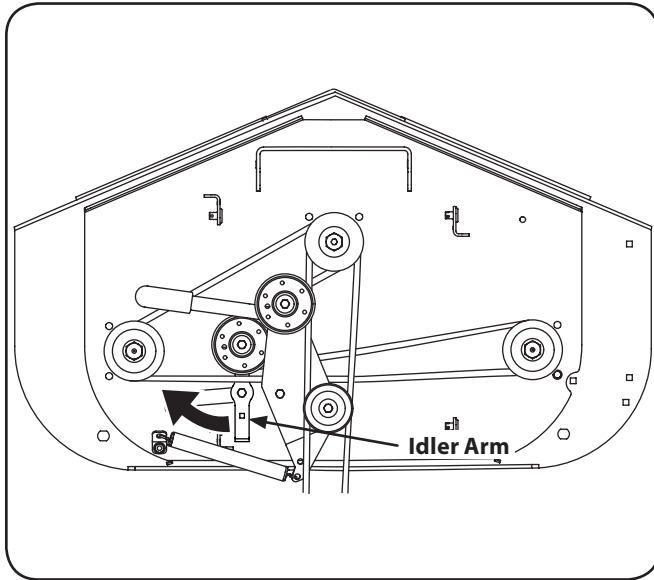

Figure 7-9
3. Using a ½" socket breaker bar or socket ratchet insert the male end into the ½" square opening in the lower idler arm assembly and pull the idler arm clockwise. See Fig. 7-9. While holding the idler arm back, loosen the deck belt from the pulley and slide the belt away from the pulley.
2. Remove the hex washer screws securing the belt covers to the deck and remove the belt from the spindle pulleys. Refer to Fig. 7-9.